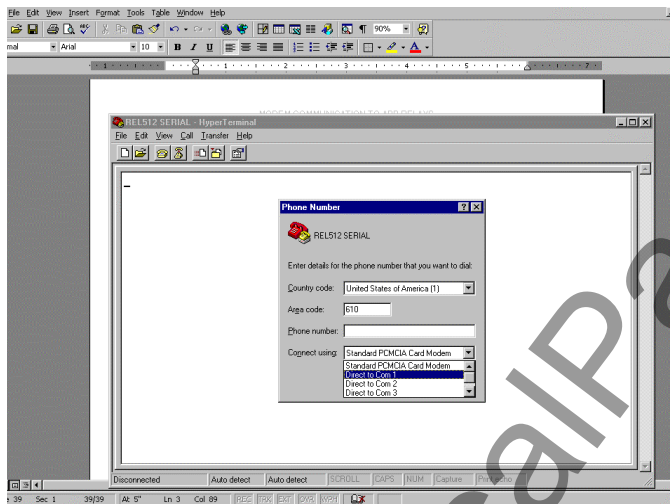

Figure 35 – Com Port Configuration For Attachment Of Hyperterminal Session
4. The COM properties for the modem must be selected for this example to those selected for the REL 512. In this case the same settings configured for the REL 512 in STEP 3 are selected for the interface. Notice that the settings are selected in Figure 35 for those configured in STEP 3. Notice for this example, hardware handshaking is enabled for RTS/CTS configuration (since HYPERTERMINAL TO MODEM CONFIGURATION IS OCCURRING NOTE: REL 512 DOES NOT HAVE HANDSHAKING AND THE MODEM WILL BE CONFIGURED AS SUCH).